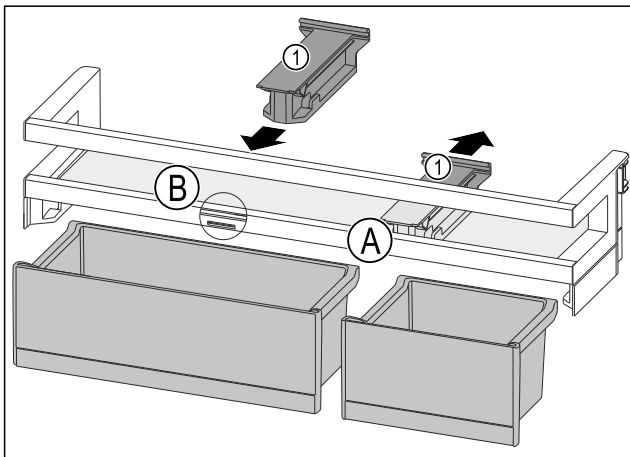

Fig. 127
- ▶ Take off the holding part Fig. 127 (1) in position Fig. 127 (A) backwards.
- ▶ Insert the holding part Fig. 127 (1) in position Fig. 127 (B).